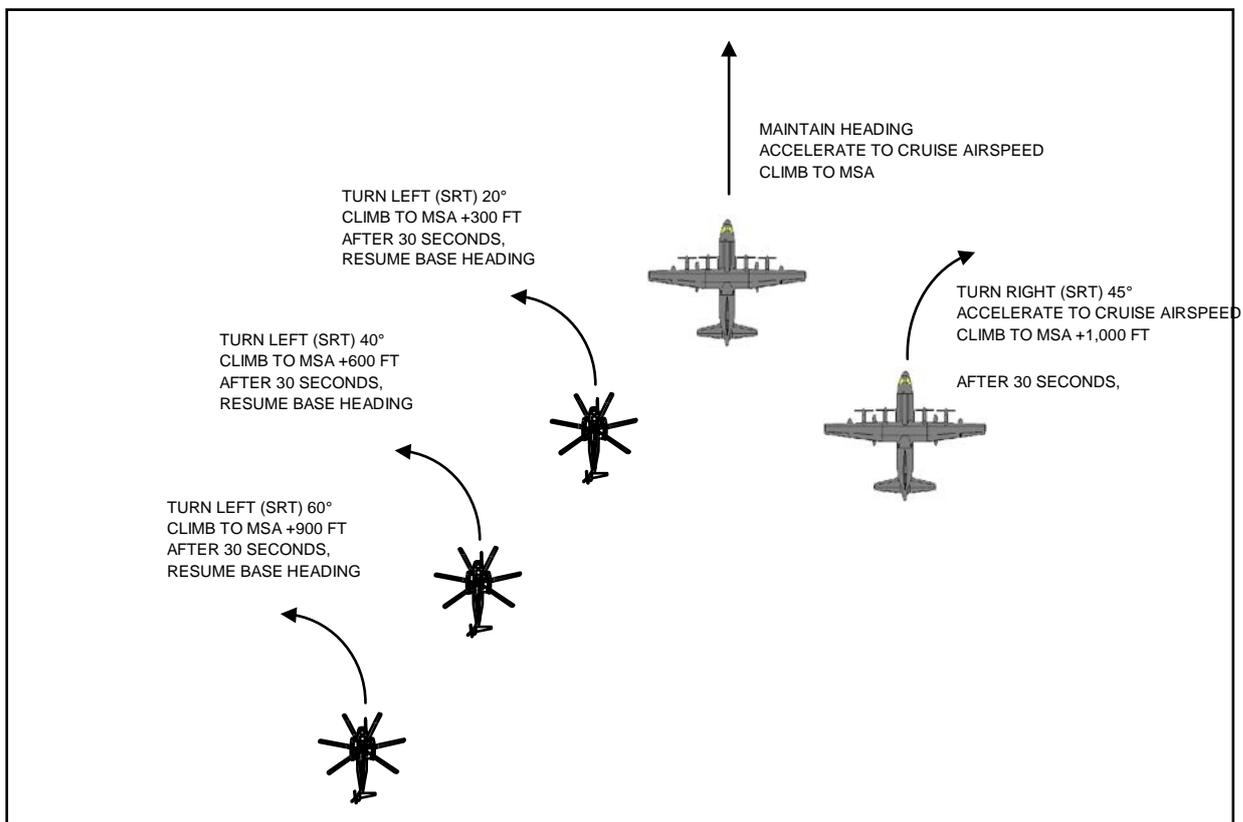

Figure 3-6. - Lost Visual Contact/Non-Mountainous Procedure
- (v) **Aircraft Separation.** To ensure aircraft separation, each receiver will call out the altitude and heading to which it is climbing and turning (See Figure 3-6).